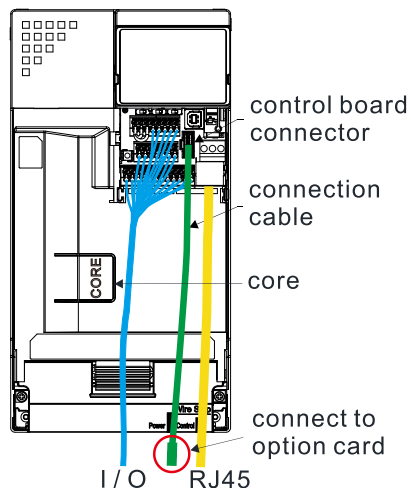

Figure 8-15
2. Assemble the connection cable: Connect the connector at one end of the connection cable to the control board connector. Refer to Section 8-1 **The Wiring of Option Cards** for more information on connection methods, as shown in Figure 8-15.